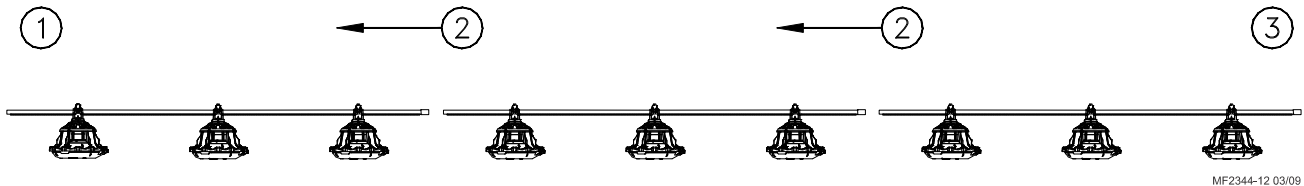

Figure 28. Assembling Feeders on the Tubes
1. The auger tubes and feeders may be laid out end to end in approximately the final location of the line. **The belled end of each tube should be toward the Hopper end of the line.** See **Figure 28**.